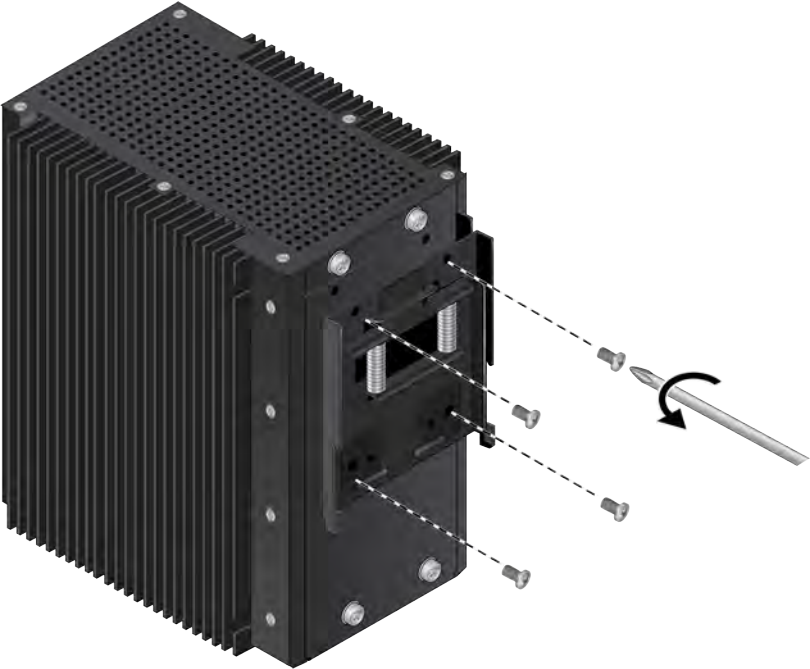

Figure 30. Removing the DIN Rail Bracket from the Switch
- 2. With a cross-head screwdriver, remove the four screws holding the DIN rail bracket, and remove the bracket. Refer to Figure 30.
2. With a cross-head screwdriver, remove the four screws holding the pre-installed DIN rail bracket, and remove the bracket. Refer to Figure 30 on page 79.